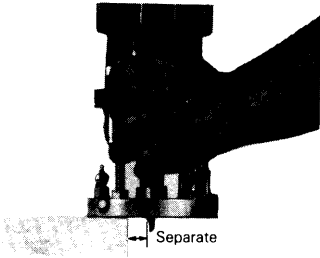

Fig. 18
(1) Turn ON the switch when the bit is separated from the workpiece. (Figs. 18 and 19)